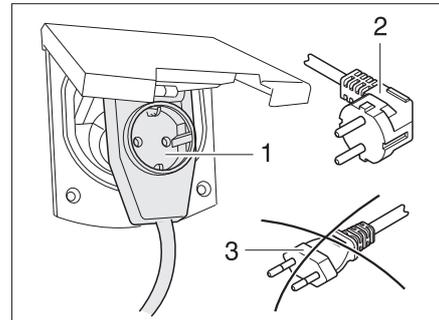

Fig. 99 Connecting an angled connector with socket
▶ If a CEE 17 angled connector with socket mounted on rear (Fig. 99,1) is used, use only a rubberised and sealed IP 44 plug with earth contact (Fig. 99,2). Do not use a plug without earth contact (Fig. 99,3). Danger of electrocution!